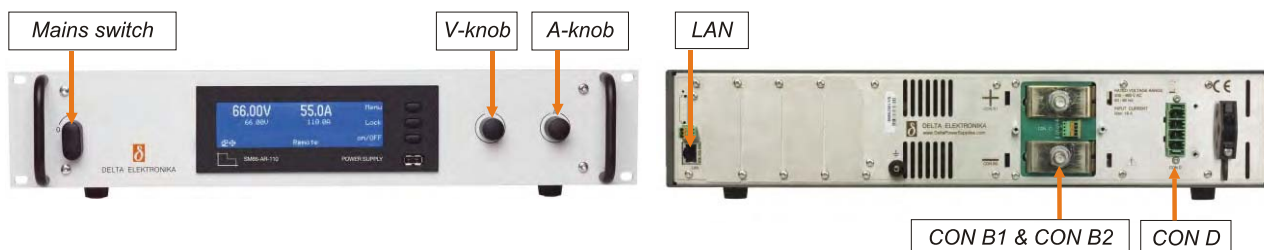

fig. 2 - 1
- Use the included 4-pole header with the markings L1, L2, L3, PE for connecting the wire to the unit (see fig. 2 - 1). The mounting torque for the header terminals is 0.6 Nm.